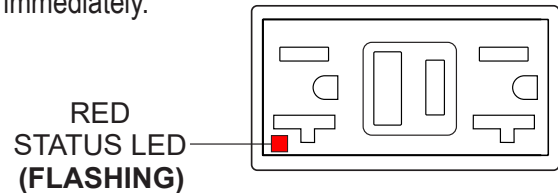

Figure 78. GFCI Receptacle (RED Flashing LED)
6. If the status LED (Figure 78) is **flashing (RED)**, **DO NOT** use the GFCI receptacle and replace it immediately.